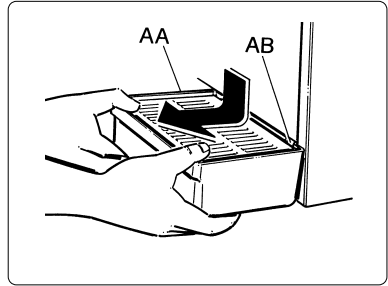

Fig. 19
- i) Remove the liquid drip-tray (AA) by lowering and pulling it outward (see fig. 19). Thoroughly wash each part and reassemble following the above procedure in reverse, making sure that the condensation drainage pipe (AB) is fitted back into its lodging.